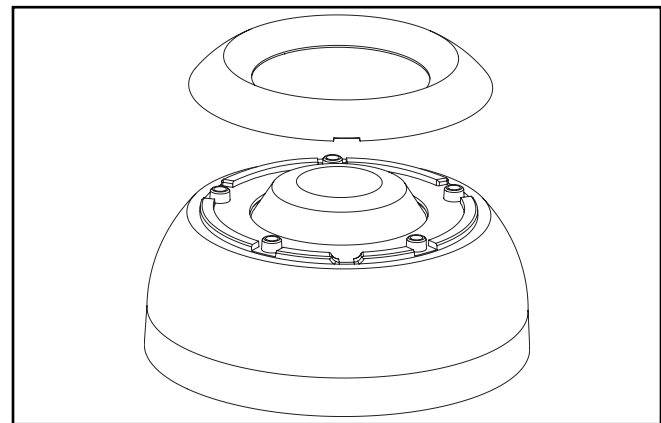

Figure 5.
2. Use tool in slot to remove sensor cap. (Figure 5.)